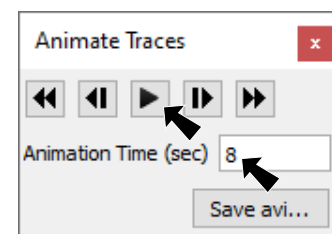

Fig. 59
Step 13. In Animate Traces dialog box set, **Fig. 59**